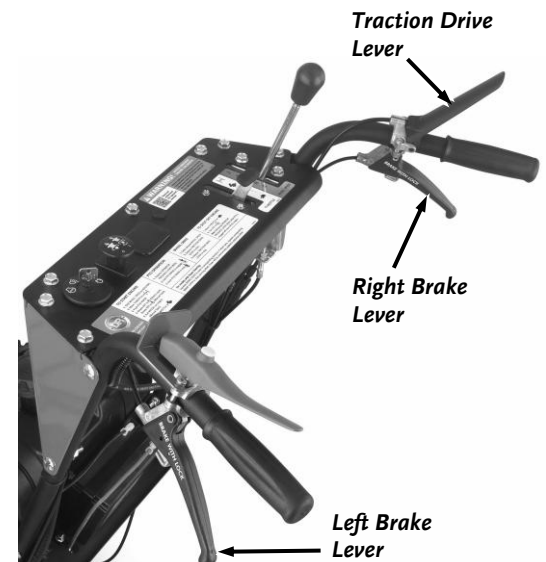

Figure 22
2. Press down on the Traction Drive Lever to drive the machine (Figure 22).